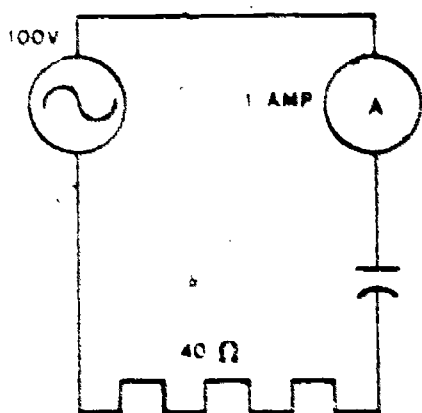

Figure 2. Heater
12. What is the opposition offered by capacitance in the circuit called? (Figure 2)